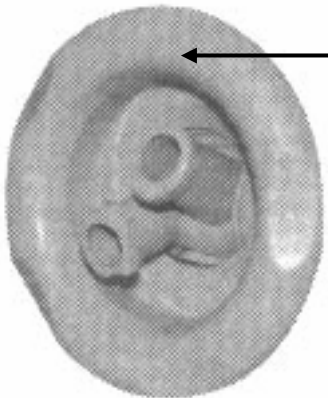

Figure 3-1 – Turn Outer Ring Counter Clockwise To Remove Jet.
**Jets** – To remove jets simply turn the outside ring of the jet counterclockwise approximately one quarter turn and pull jet out. (Figure 3-1) To replace the jet, simply place the jet in the shell and turn the jet until the slots line up, then turn jet one quarter turn clockwise until secured. The jet will easily push into place and “snap” when it is locked.